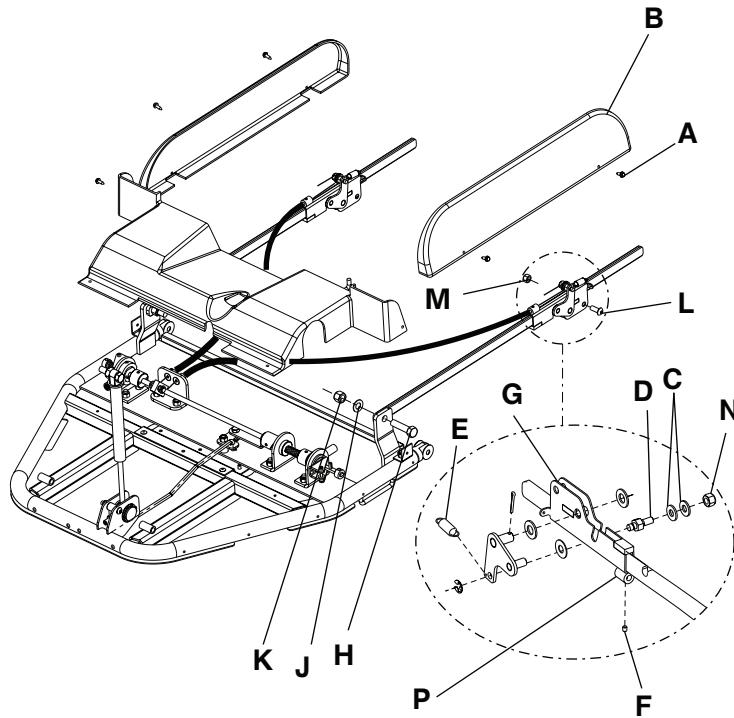

Figure 17 – Leg section locking link replacement
5. Using a 1/4" nut driver, remove the screws (A) that secure the cover (B) to the frame to remove the cover (Figure 17). Save all parts.
6. Using a 5/64" hex wrench, remove the set screw (F) from the cable stop on the latch housing. Save the set screw.
7. Using two 7/16" combination wrenches, loosen the cable retainer (D) and the nut (N). Pull the cable and cover free from the latch housing (G). Save all parts.
8. Using two 9/16" combination wrenches, remove the bolt (H), washer (J) , and the nut (K) that secure the locking link assembly to the foot section. Let the linkage swing down. Save all parts.
9. Using a 3/16" hex wrench and a 1/2" combination wrench, remove the screw (L) and nut (M) that secure the locking link assembly to the Fowler backrest. Remove the locking link.